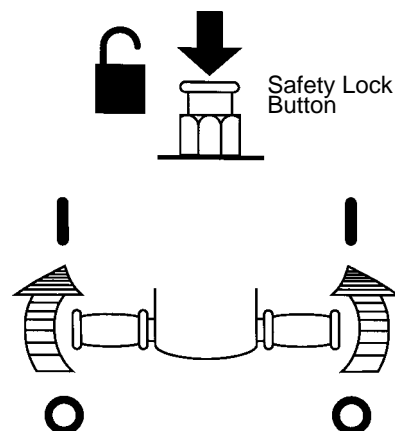

FIG. 5
5. To begin scrubbing, hold the handles firmly, depress the safety lock button and twist handle grips forward. Release the safety lock button once machine starts (Figure 5).